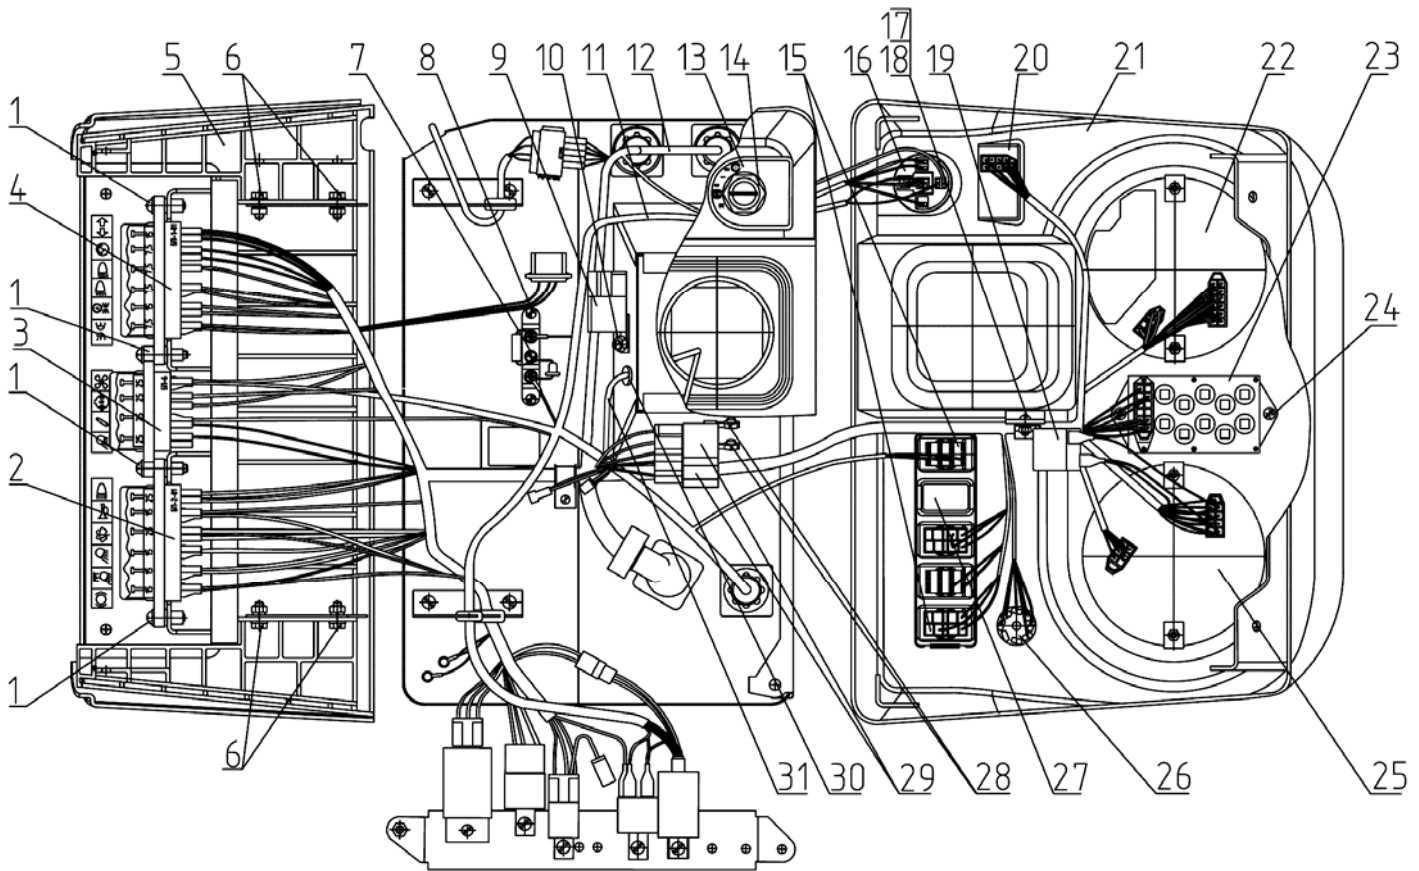

Figure 11.26
- d) arrange the dashboard as shown in figure 11.26.
- b) unscrew two quick-dismounting screws (Figure 11.26), that fasten box of fuses;
a) to replace boxes of fuses 2, 3, 4 (Figure 11.26) disconnect wires from them, then unscrew screws 1 that fasten them and replace corresponding box